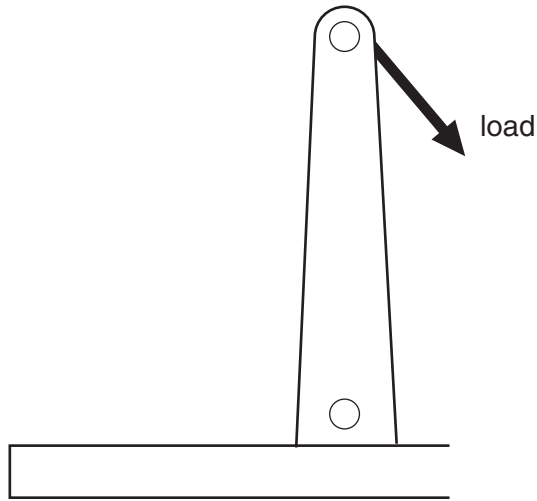

Fig. 5
- (ii) During the building of this catapult the student decided to test the deflection of the upright. A dial gauge was used to measure the deflection. Add sketches and notes to Fig. 5 to show how the gauge would be set up to measure the deflection.